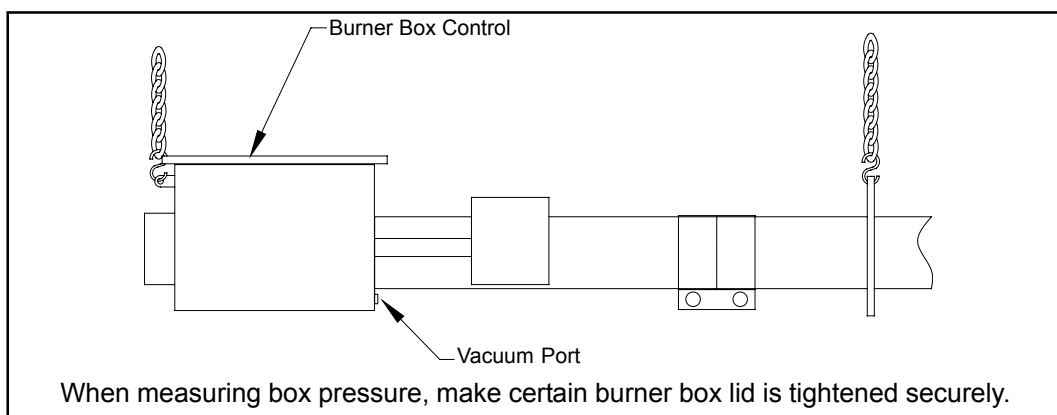

Figure 4-5
7. Using a manometer with an adequate range, measure the vacuum at the burner (Figure 4-5) farthest away from the vacuum pump. Adjust the primary damper at the pump until the manometer reaches the specified reading shown in the chart below.